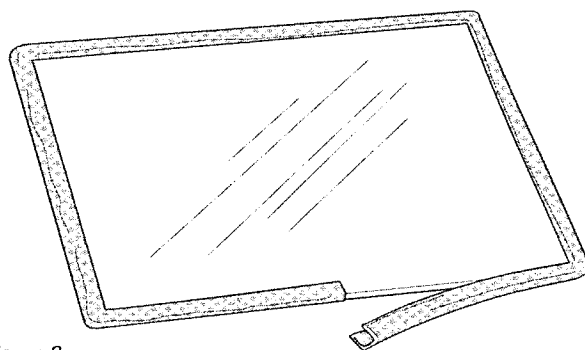

Figure 8.1
5. Beginning at the midpoint of the lower edge, apply the new gasket around the glass panel, with the adhesive side inside and the thicker portion on the outside. DO NOT STRETCH THE GASKET MATERIAL. Trim off any excess, leaving a 1/2" overlap as shown in fig. 8.1.